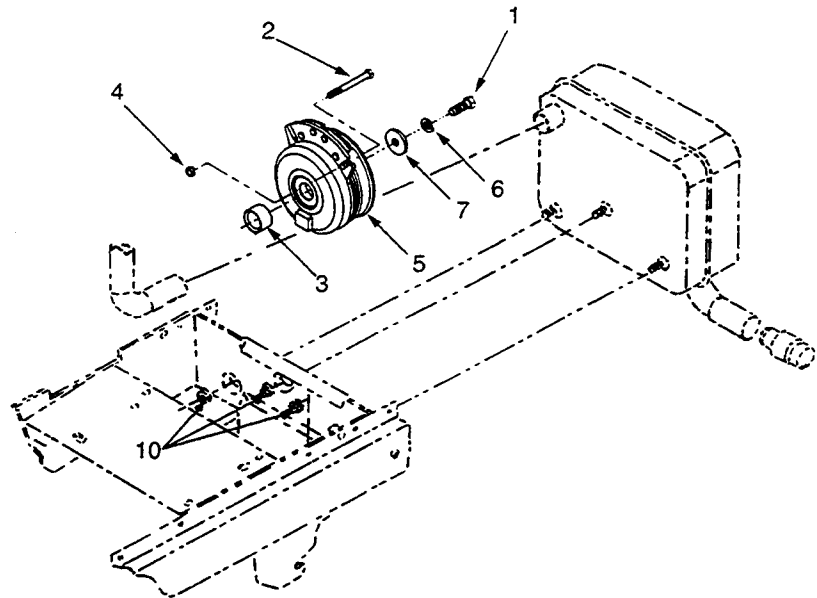

Figure 5-6. PTO Clutch (Models 2130, 2135, 2140 and 2145).
3. Remove the hex flange lock nuts (10, Fig. 5-6) securing the muffler to the tractor frame and remove the muffler.